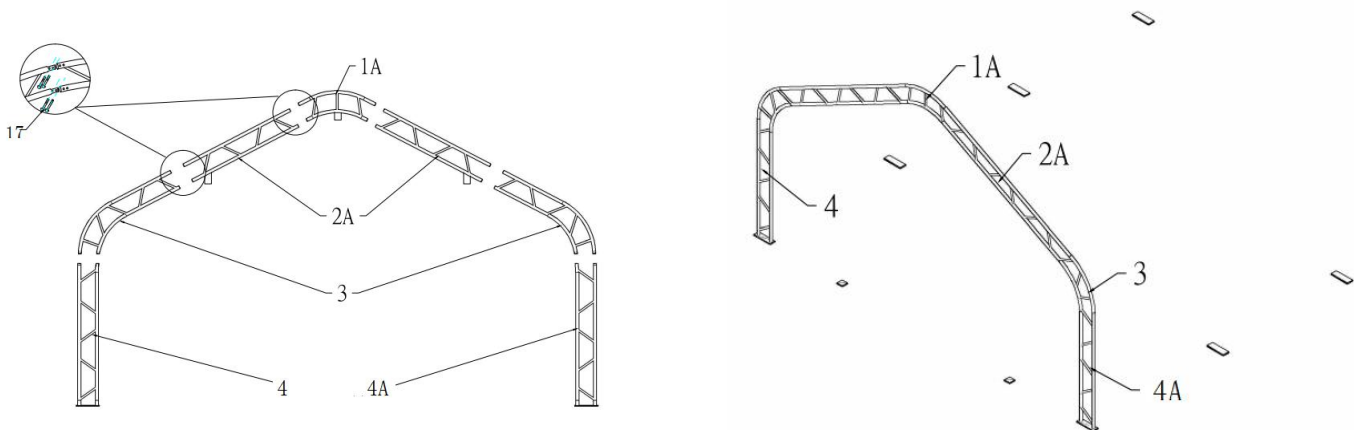

Figure 4
1. Figure 4 shows to connect the Roof bent tube for front and back door (No.1A), Sidewall bent tube for front and back door (No.2A), Shoulder bent tube (No.3), Standing leg (No.4) and Standing leg for front door (No.4A) with Bolt 8x60 (No.17), then put the arch into tube of the Base flange by hoist (see Figure 4)